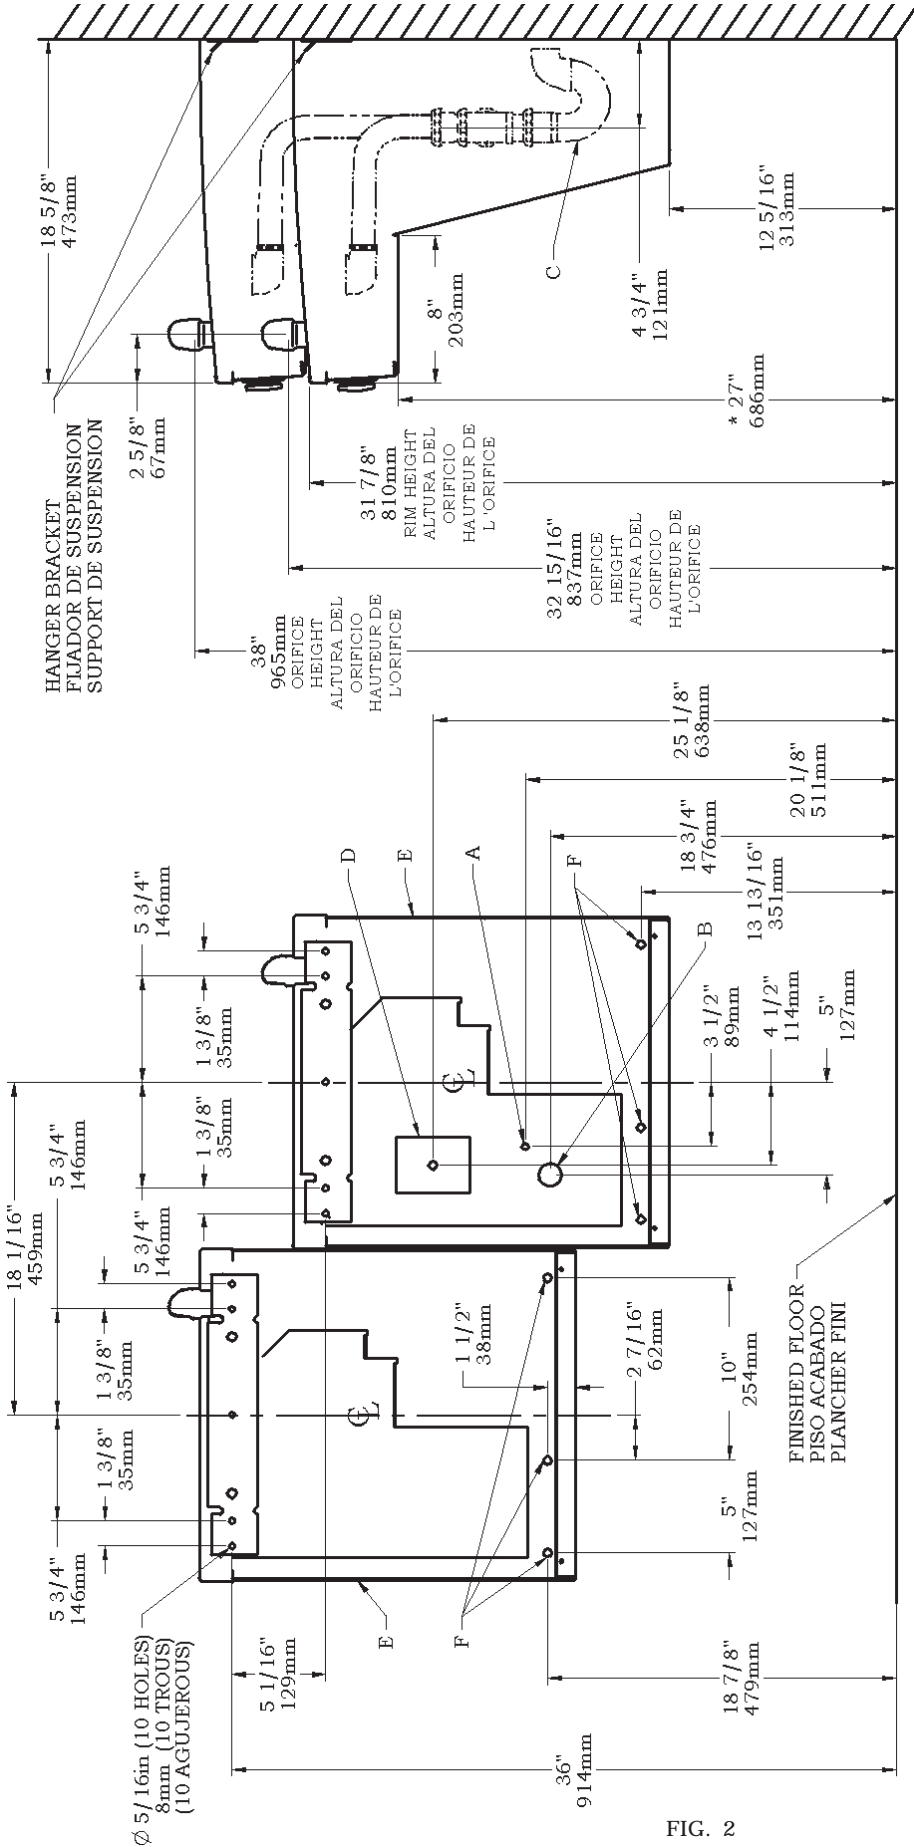

FIG. 2
- 1) Remove hanger bracket fastened to back of cooler by removing one (1) screw.
- 2) Mount the hanger bracket and trap as shown in Figure 2.
- Anchor hanger securely to wall using all five (5) 1/4 in. dia. mounting holes.
- 4) Hang the cooler on the hanger bracket. Be certain the hanger bracket is engaged properly in the slots on the cooler back as shown in Figure 2.
- 5) Loosen the two (2) screws holding the lower front panel at the bottom of cooler base and two (2) screws at the top (**Use torx bits sold separately**). Remove the front panel and set aside.
- 7) Remove the slip nut and gasket from the trap and install them on the cooler waste line making sure that the end of the waste line fits into the trap. Assemble the slip nut and gasket to the trap and tighten securely. Recommend fastening cooler to wall using 7/16 bolt holes. (see fig.2, "F")